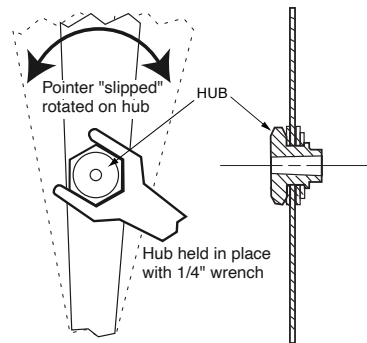

Figure 2-3. "Slipping" Pointer
4. Set the pointer to ZERO position, by "slipping" the pointer on the hub, per the following (refer to Figure 2-3):